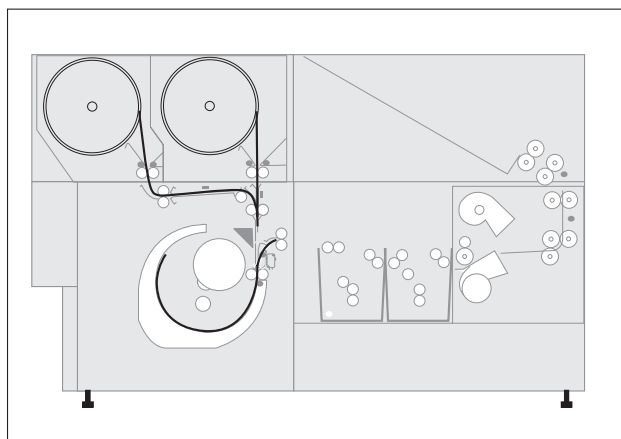

Fig. 5
4. After exposure the plate is guided towards the drum exit guide, fig. 5. During the forward motion the plate is temporarily stopped, and the plate is cut.